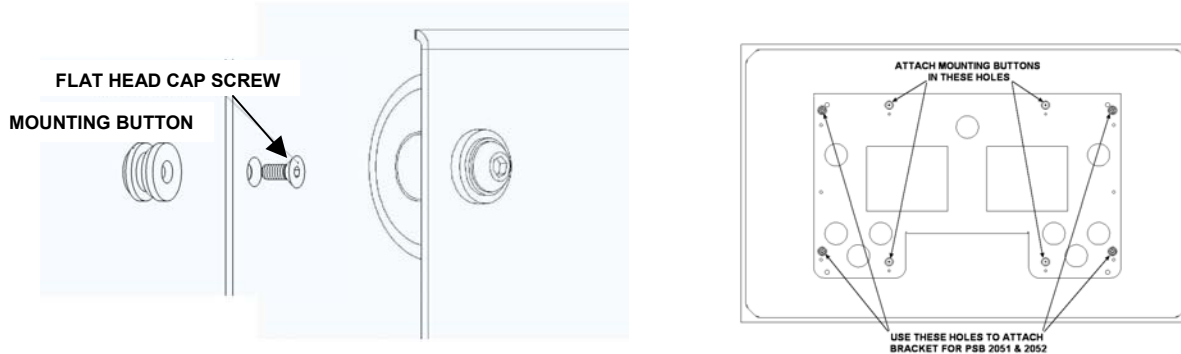

Figure 2
1. Using a 10-24 flat head cap screw inserted from chamfered hole side of bracket, secure mounting button, with chamfered hole of mounting button (larger surface) facing bracket, to bracket (four places). See Figure 2.
2. Place 4 20 mm spacers on display over mounting threads in display (Figure 2).
3. Place display bracket on display (see Figure 2) with bent lip towards the display, place shoulder washers into mounting holes and place M8 flat washers on top of shoulder washer (Figure 2).